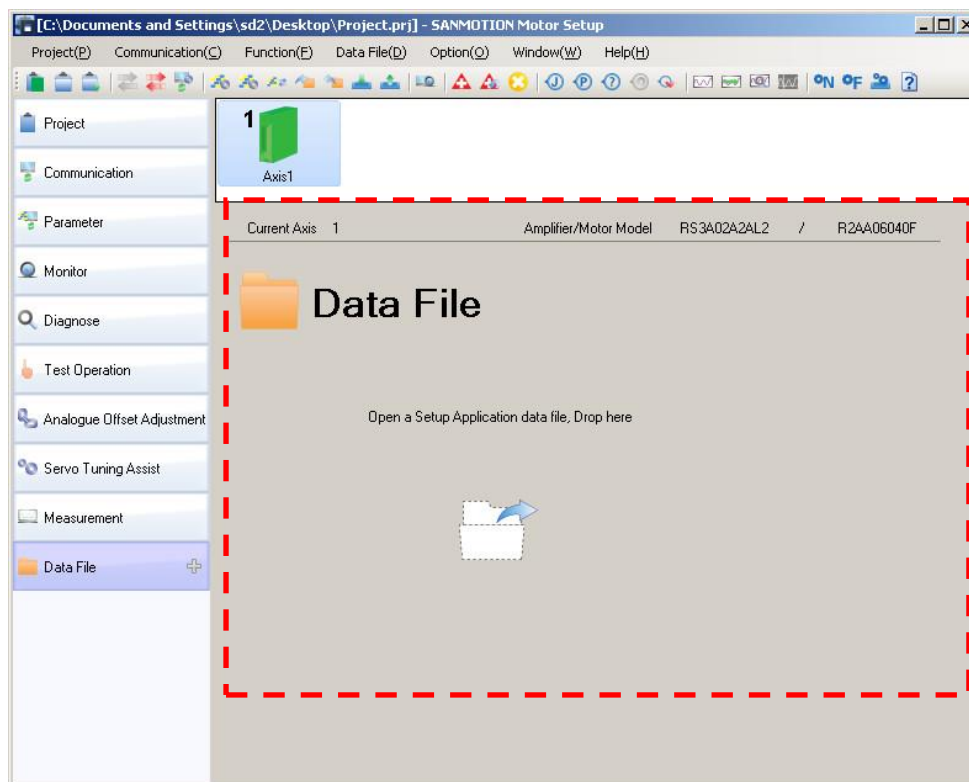

Figure 11-1 Data file window
- (1) Drag & drop the data files you select.
Dragging and dropping data files into the area boxed in red dot of Figure 11-1 Data file window automatically identify the type of data files to show the contents in the window. Provided that, parameter file (*.ap1) always shows parameter setting window. To check alarm history, separately open alarm history checking window or open the file in the procedure specified in (2) below.
- (2) Open files by data file type.